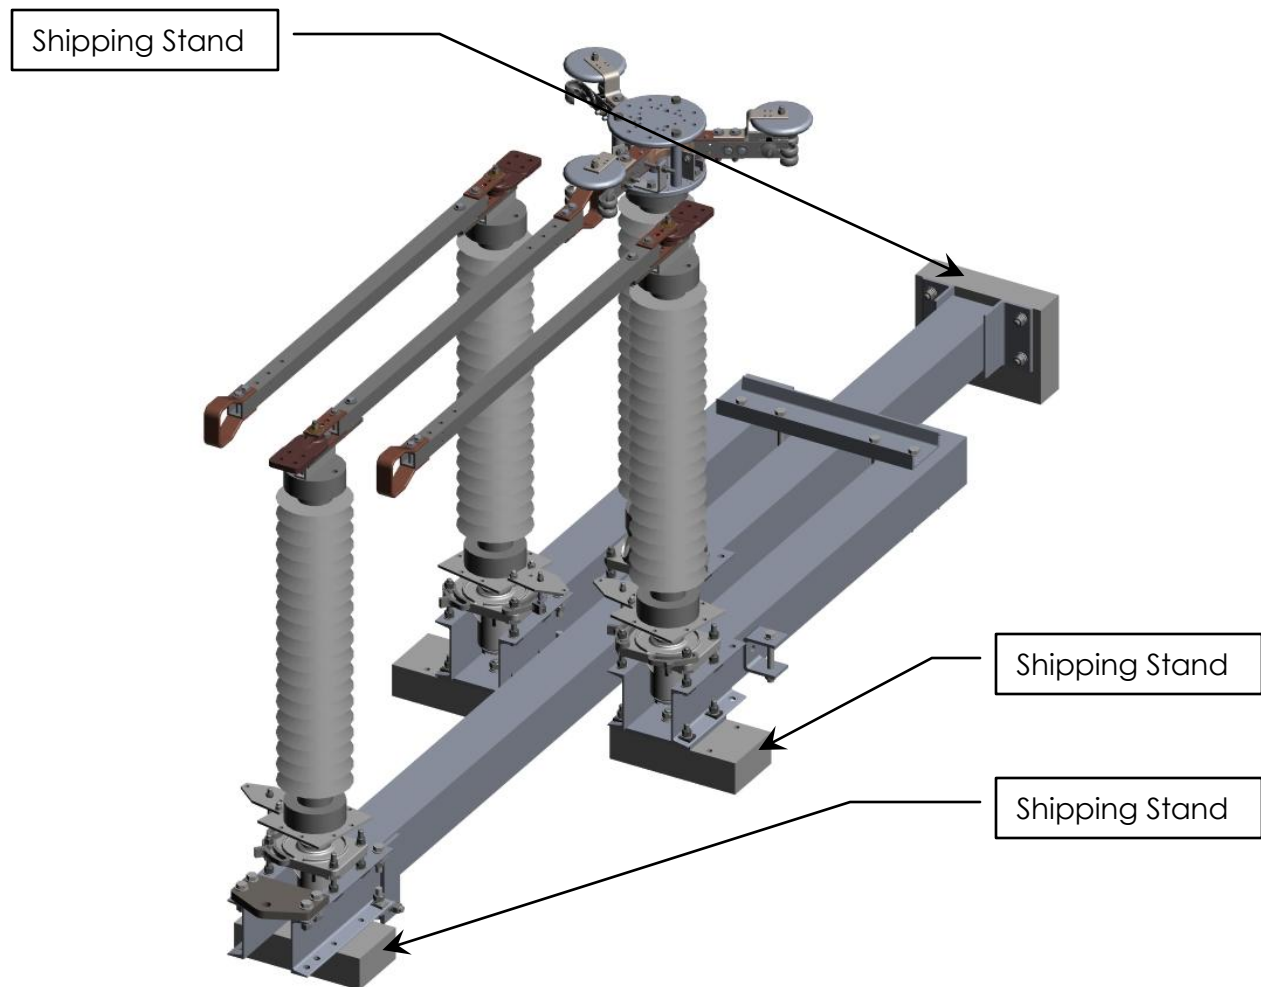

Figure 3: Folded Switch
- 1) Remove any shipping braces or straps from the switch. Leave the shipping stands attached to the switch base to facilitate assembly. See Figure 3.